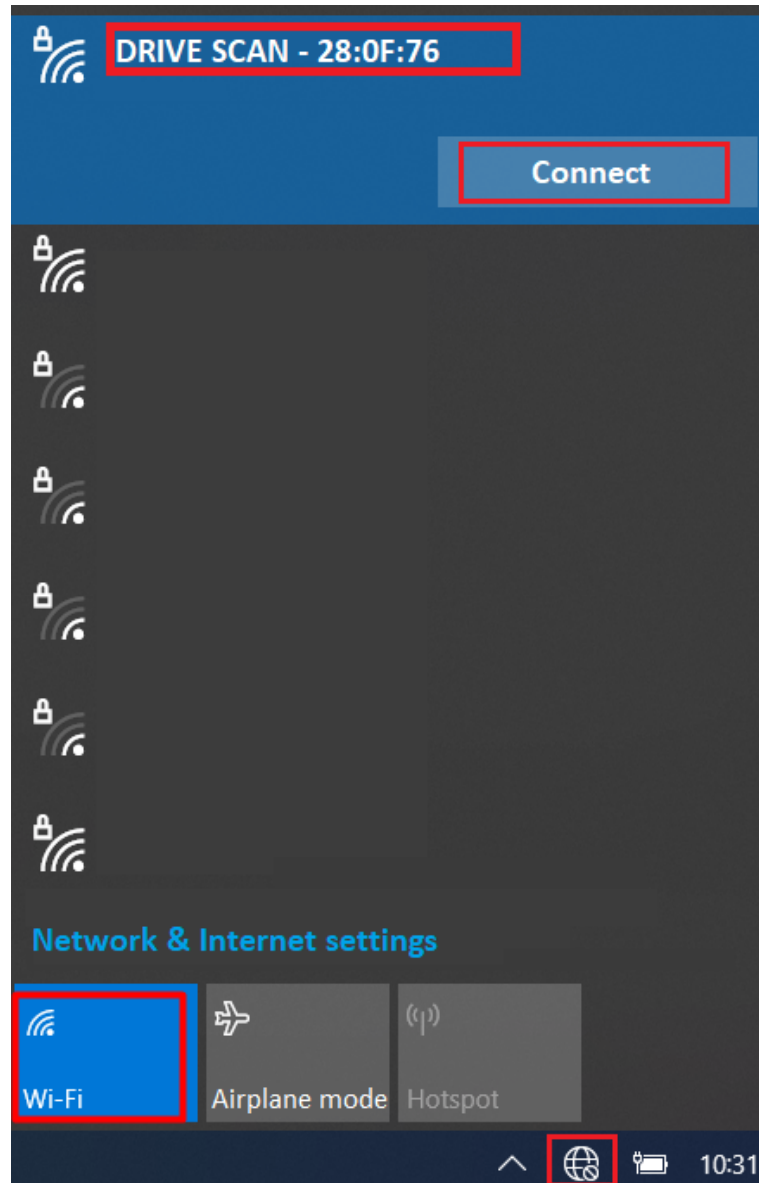

Figure 6.2: Preparing for the Drive Scan configuration
Step 1 (via Wi-Fi AP) With Drive Scan turned on and nearby, access the list of available Wireless devices (Windows), as per Figure 6.2. In the case illustrated as an example, the Drive Scan access point has the network named “Drive Scan - 28:0F:76”.